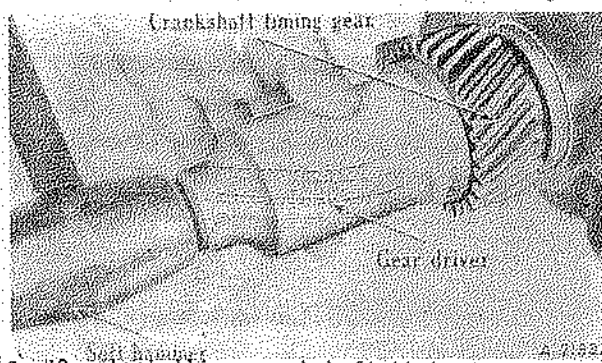

Fig. 43 - Installing crankshaft timing gear using an installing tool
5. Install Woodruff key in groove in crankshaft. Heat crankshaft gear in boiling water or piston heater. This will expand the gear enough to let it be tapped on the crankshaft without the danger of damaging the gear. Use gear driver to ensure alignment when starting gear (Fig. 43).